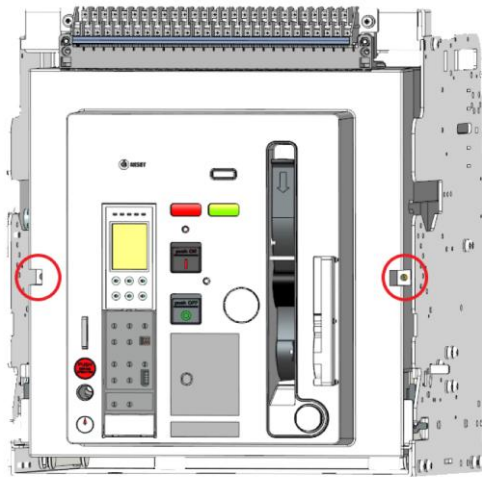

FIG 1
1. Loosen both bolts by using (+) driver [FIG 1]